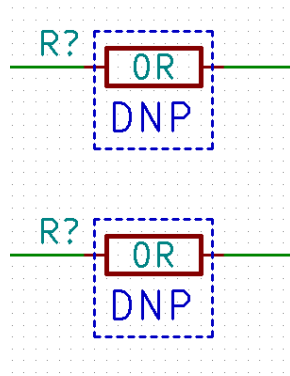

Figure 8 – Non-populated Part Labeling
20) Non-populated parts should be enclosed in a graphic rectangle and labeled “DNP” per **Figure 8**.